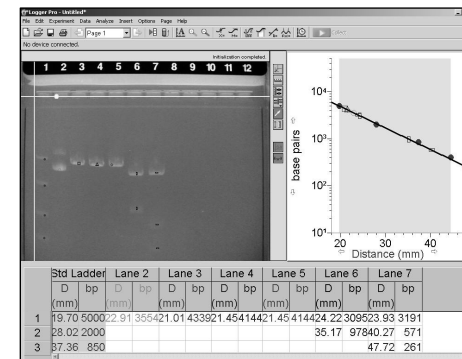

Figure 4: Logger Pro ready to begin Gel Analysis
3. When you are satisfied with the image, click the Take Photo button. Your screen should now look similar to the one in Figure 4.